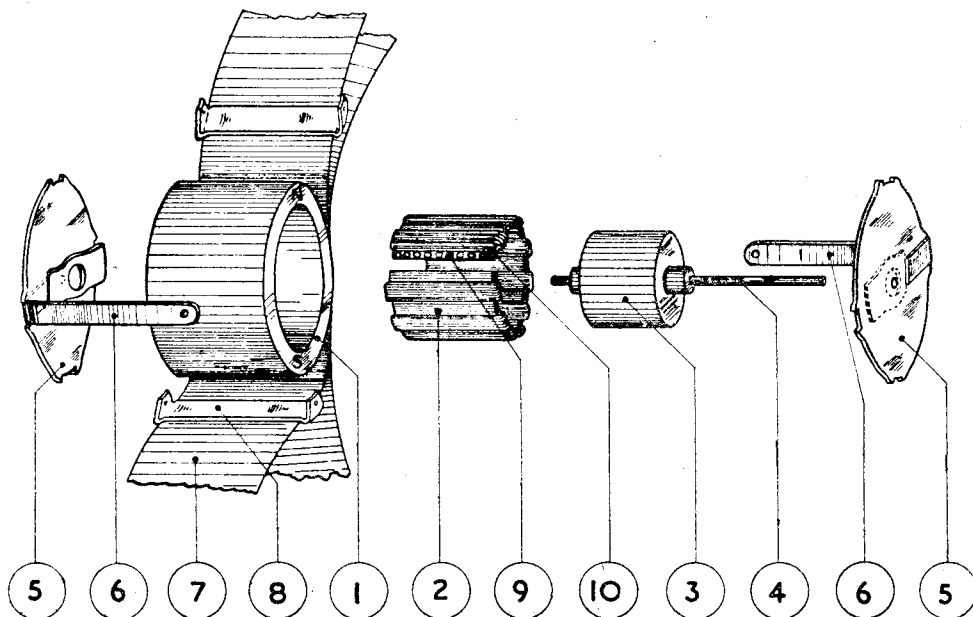

Fig. 1. The internal components of the "Electrotor"
parts, as illustrated in Figs. 1, 2 and 3: (1) A permanent ring magnet which forms the main carcass of the machine and also the field magnet; (2) an armature composed of an iron wire core of annular form, with a toroidal winding of fine insulated copper wire, mounted on a bobbin (3) and spindle (4), and two end plates (5) incorporating bearings for the spindle, and to which are attached spring contact brushes (6); a flexible insulating covering (7) is wound around the magnet, and serves, in conjunction with the metal clips (8), as a means of holding the assembly together, and insulating the extensions of the brushes (6), which form the main terminal connections.